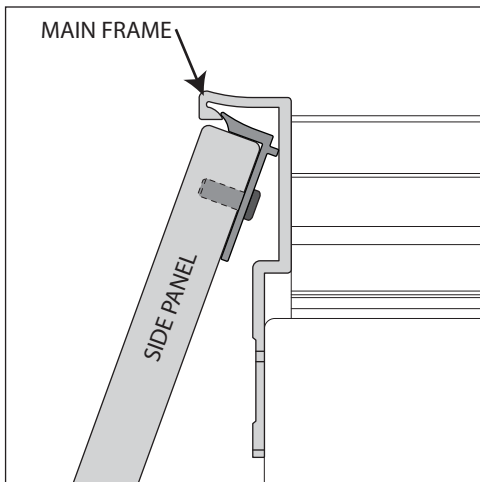
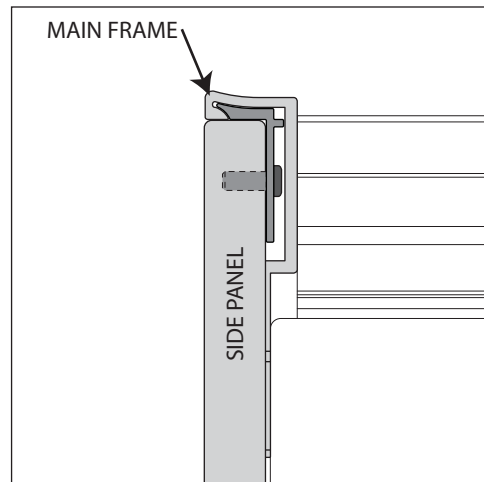
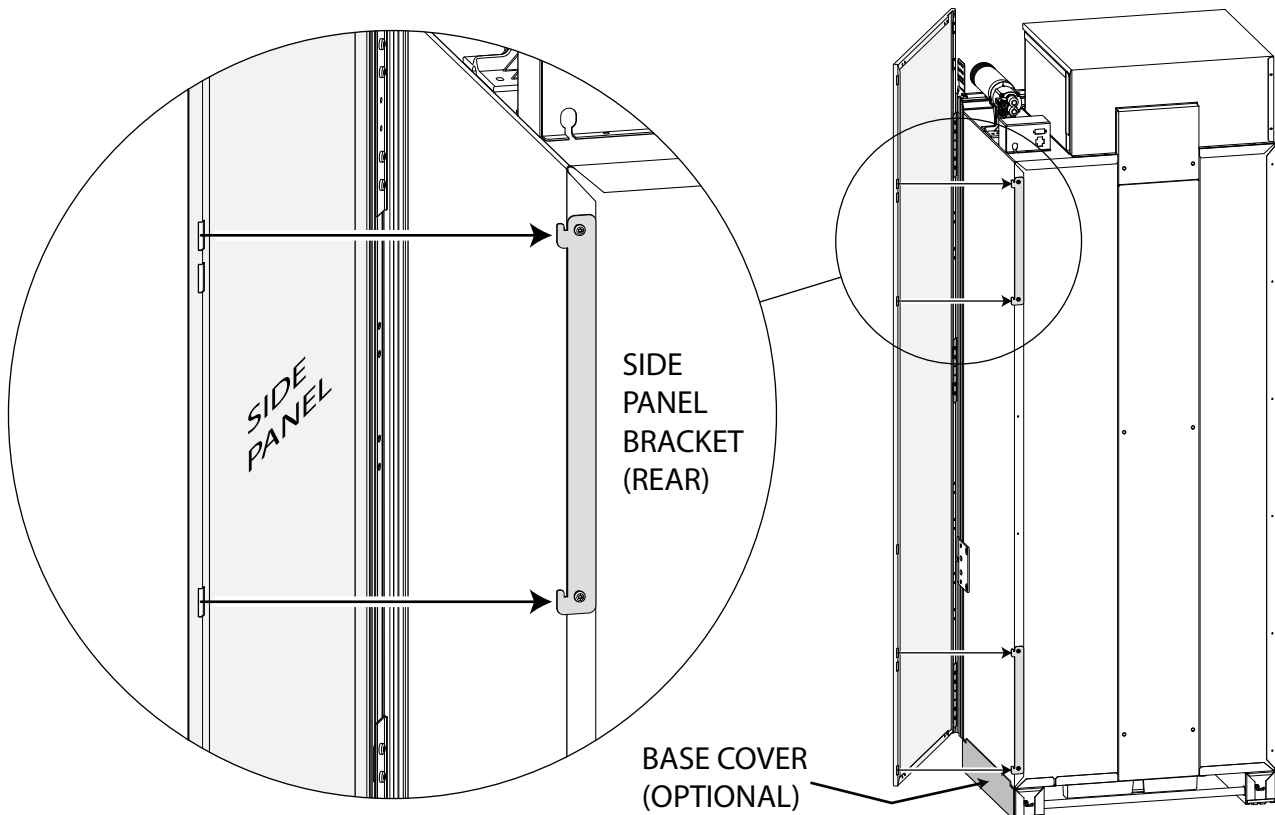

Figure 3. Hanging Side Panel, Top View
Figure 4. Hanging Side Panel, Top View
Figure 5. Hanging Side Panel, Rear View
1. With the side panel held at an angle to the side of the unit, engage the front brackets behind the mainframe (See Figure 3 and Figure 5), then rotate the back of the panel toward the unit so the front brackets hook in behind the mainframe (See Figure 4 and Figure 5) and the slots at the back of the side panel align with the rear bracket hooks (See Figure 5).
NOTE: After unit is slid into position, adjust optional base cover at this time (See Figure 5). If base cover needs to be removed, unit must be pulled from installation so base cover can be slid toward back and out through rear slot of the side panel.